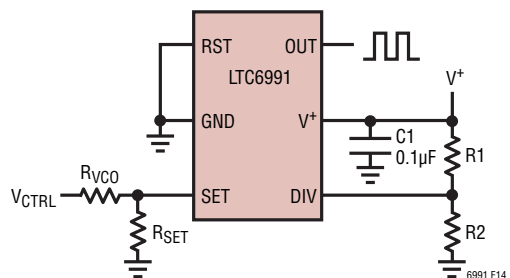

Figure 14. Voltage-Controlled Oscillator
With one additional resistor, the LTC6991 output frequency can be manipulated by an external voltage. As shown in Figure 14, voltage  $V_{CTRL}$  sources/sinks a current through  $R_{VCO}$  to vary the  $I_{SET}$  current, which in turn modulates the output frequency as described in Equation (3).